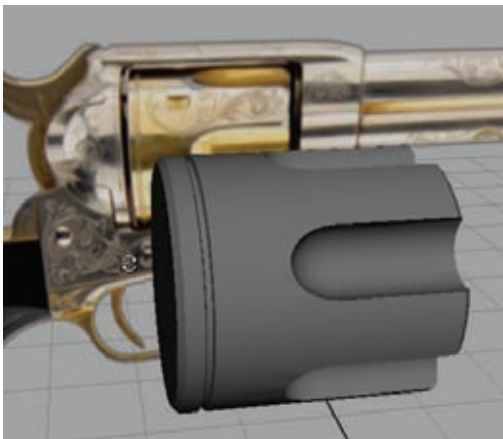

Figure 3.6
21. With the ring of faces still selected, extrude them inward, creating a groove running around the cylinder (Figure 3.6).